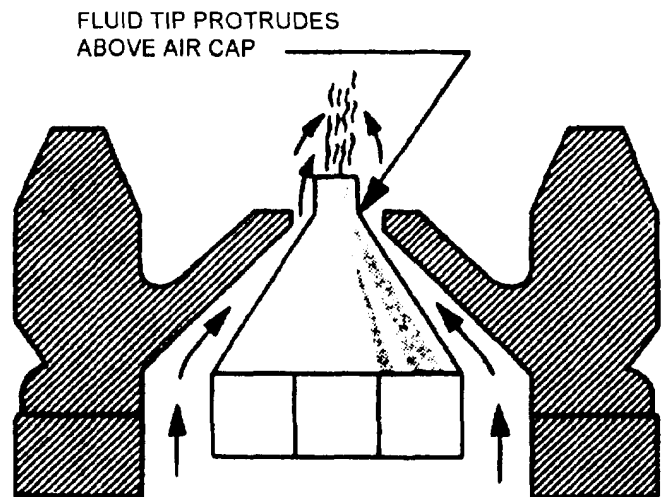

Figure 1-17.—Suction-feed air cap.
- **Suction-feed gun:** A suction-feed gun has a suction-feed air cap that draws the fluid from the container by suction in about the same way that an insect spray gun operates. The suction-feed guns are usually used with one quart (or smaller) containers. See figure 1-17.